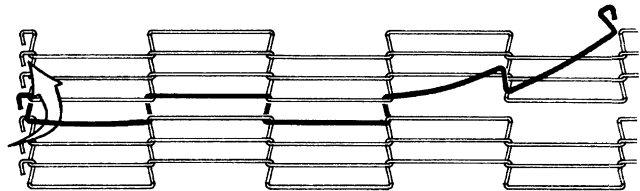

Figure 92: Attach Splicing Link to Wire Belt Link
9. While still applying pressure on the screwdriver inserted in the link's loop, force the handle of the screwdriver over in the opposite direction to force the open end of the loop on the splicing link to catch the wire belt link that the screwdriver was inserted into. Refer to Figure 92.